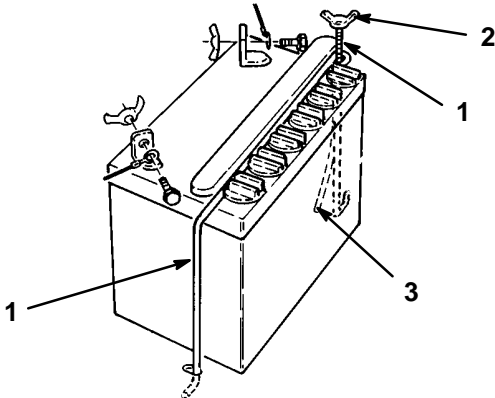

Figure 3
1. Remove wing nut securing battery hold downs to rider chassis (Fig.3).